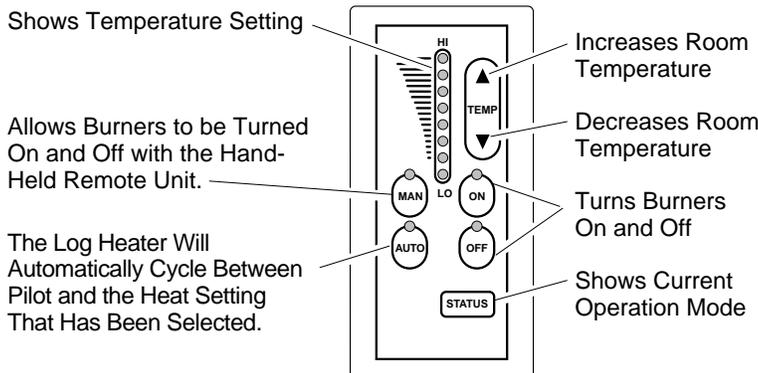

Figure 34 - Thermostat Hand-Held Remote Control Unit Selections
- Select the MAN (manual) or AUTO button on the hand-held remote control unit (see Figure 34, page 17).